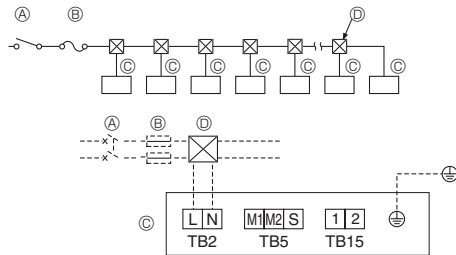

Fig. 4-4
4.2. Power supply wiring (Fig. 4-4)
- (A) Ground-fault interrupter